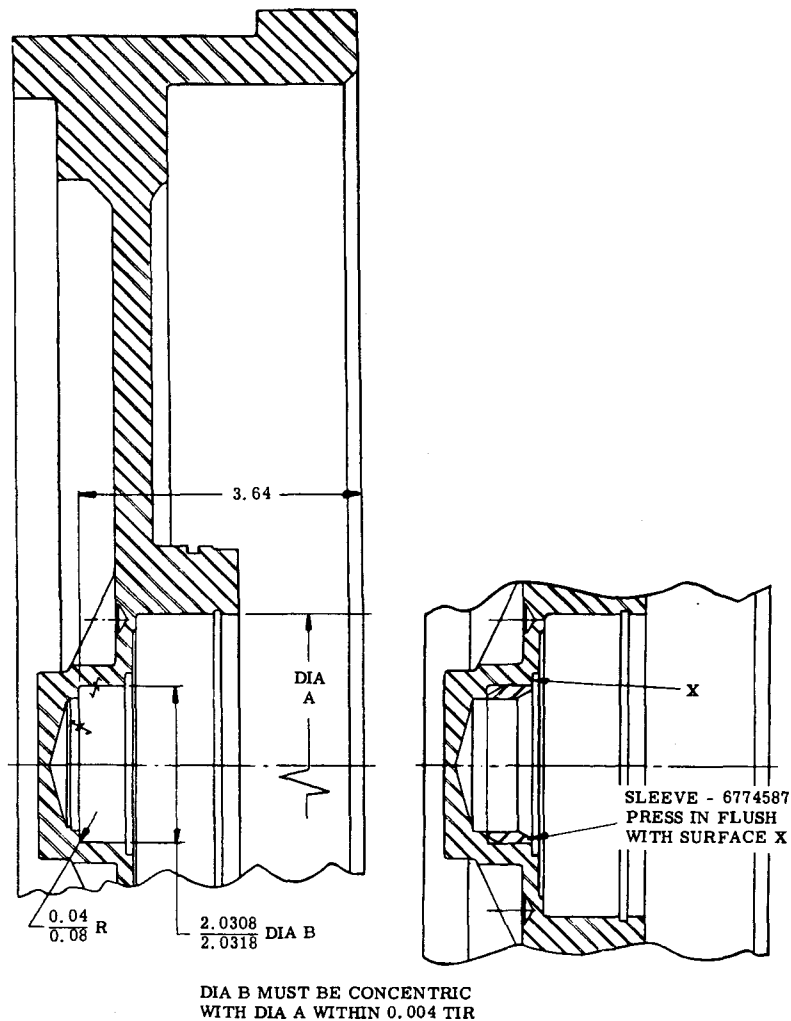

Fig. 6-2. Rework of flywheel—cross-section view
(1) If the sealing surface of the flywheel bore is worn enough to impair sealing, bore it to the dimensions shown in figure 6-2.
(2) Cool sleeve 18 (C, foldout 5) in dry ice for at least 30 minutes. Then install the sleeve, being careful that it is aligned with the bore and is not damaged during installation. The inside chamfer must be toward the rear.